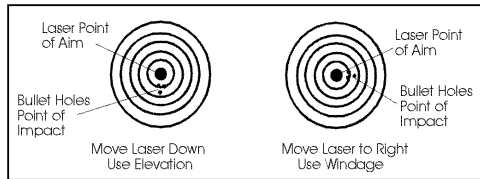

Figure 2
Step 3. If the bullet holes are clustered to one side or the other, then you will need to adjust the windage. If the bullet holes are grouped above or below the target, then you will need to adjust the elevation. See Figure 2 below.